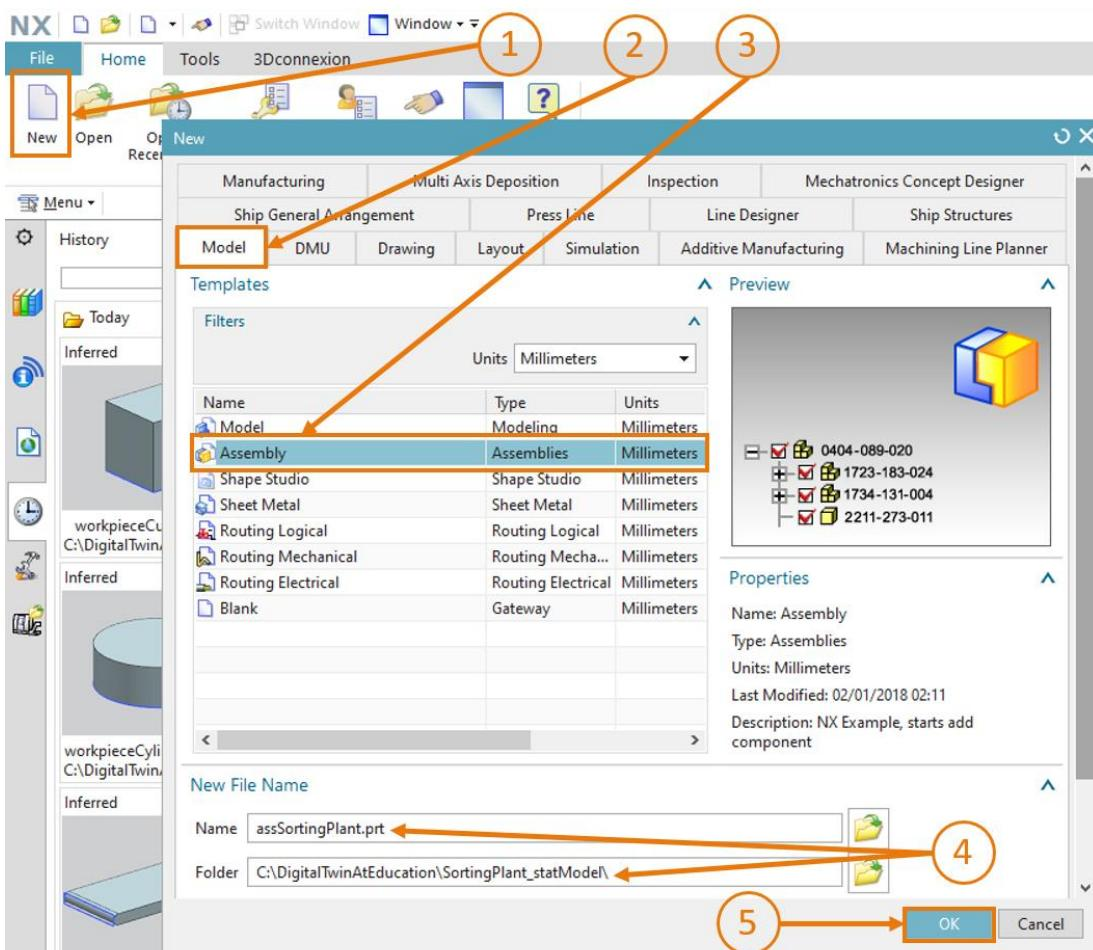

Figure 51: Creating an assembly
- If you have not already done so, open the "NX V12.0" software and wait until the Welcome Screen appears, as shown in Figure 6. Click the "New" button (see Figure 51, step 1) and navigate in the new window to the "Model" tab (see Figure 51, step 2). This time, an "Assembly" instead of a model, as shown in Figure 51, step 3. Use a meaningful name for the assembly. Specify the name "assSortingPlant" for the sorting plant and select the same directory in which the individual models were saved (see Figure 51, step 4). Confirm with the "OK" button to create the new assembly (see Figure 51, step 5).